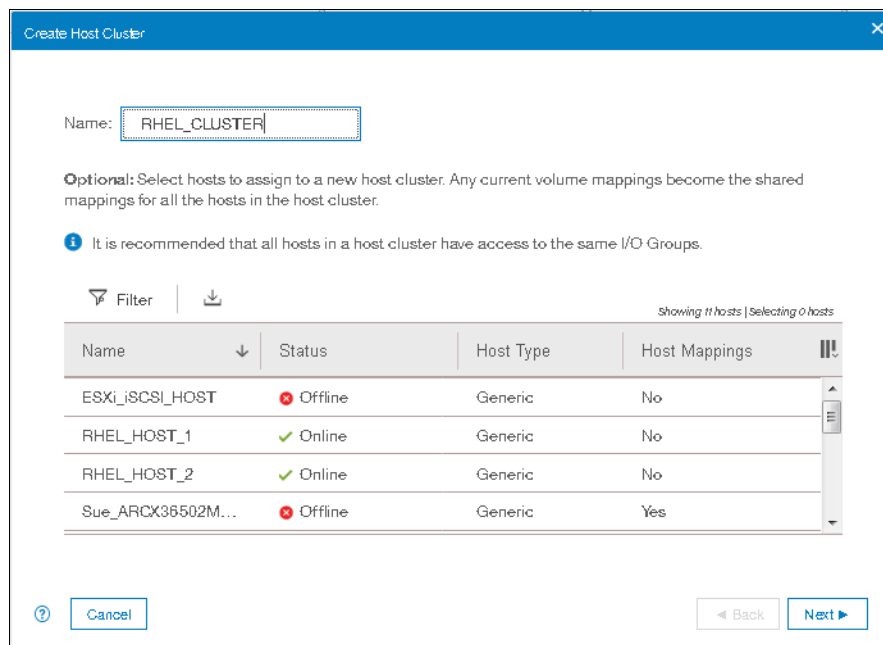

Figure 5-75 Defining Host Cluster
3. Provide the name of the Host Cluster that you want to create as shown in Figure 5-75 on page 248.